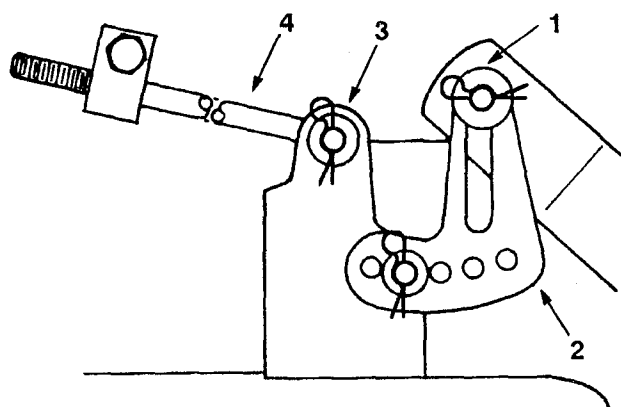

Figure 41
8. Remove the hair pin cotter and washer at the top of the mower leveling bracket (Fig. 41). Now slide the bracket off the mounting pin. Repeat this step on the opposite side of the mower.
9. Remove the hair pin cotter and washer from the end of the long rod (Fig. 41). Now slide the rod out of the mower mount. Repeat this step on the opposite side of the mower.